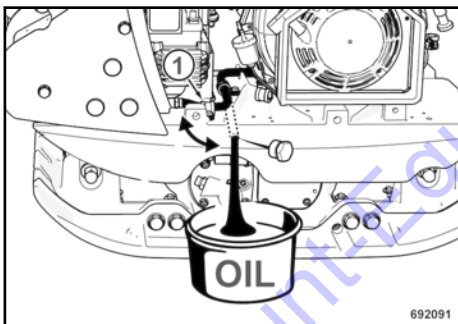

Fig. 52
Loosen the hose clamp (1) ↗ Fig. 52 and route the hose to the outside.